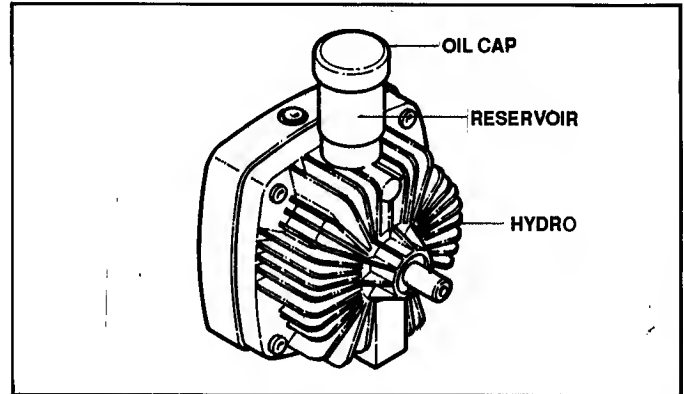

FIGURE 9.6
4. Check oil level in reservoir. Add fluid as required. See Figure 9.6 & "NOTICE".